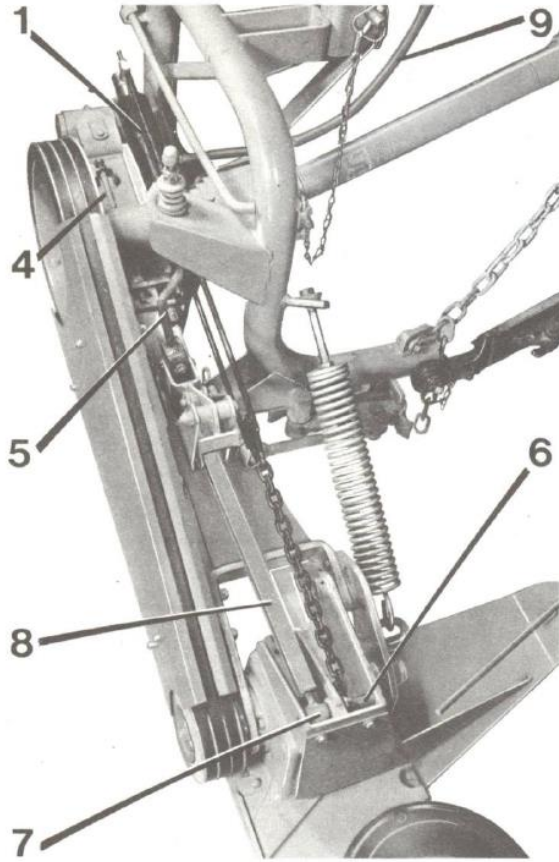

FIG. 18
(Fig. 18 & 19) Using the supplied bracket, fit the lifting cylinder (1) to the strut by positioning its support (2) 150 mm from the locking lug (3). Take care to firmly tighten the nuts of the cylinder support bracket. To comply with the dimension indicated above, it is necessary to shorten the screw (4) of the belt tensioner by 15 mm. Replace the lifting rod (5) with the angled one, then adjust it to 380 mm as indicated on page 8. This operation is not necessary on some machines which already have the angled rod (see instructions).